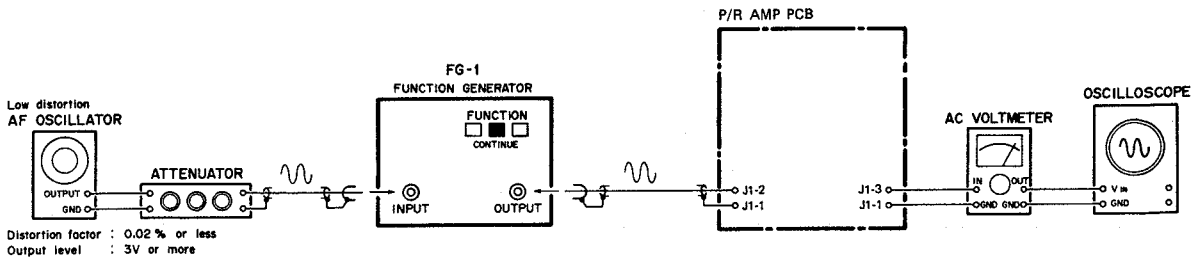

FIG. 31. RMS SYMMETRY & LEVEL ADJUSTMENTS
A. RMS Symmetry Adjustment (Connections: Fig. 31)
C. Decoding Level (Connections: Fig. 31 — AC voltmeter connected to J1-4 (not J1-3 as shown) and J1-1)
D. Frequency Response (Connections: Fig. 31 — AC voltmeter connected to J1-4 (not J1-3 as shown) and J1-1)
F. Decode Effect Check (Connections: Fig. 31)
C. Encoding Level (Connections: Fig. 31 — AC voltmeter connected to J1-4 (not J1-3 as shown) and J1-1)
F. Encode Effect Check (Connections: Fig. 31)